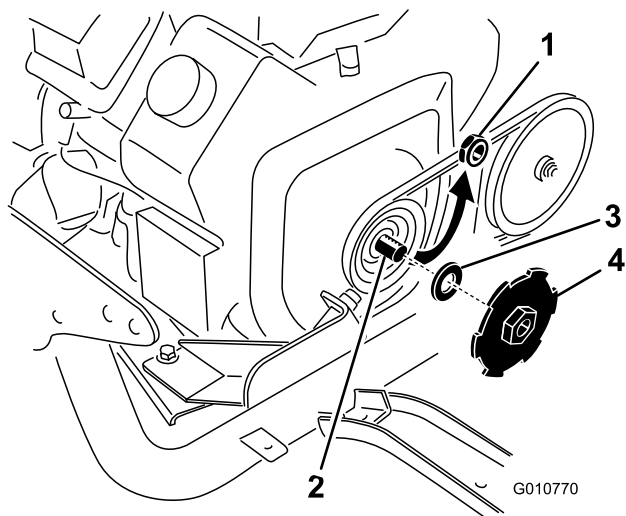

Figure 3
10. Remove the nut from the engine crankshaft (Figure 3). Do not remove the washer or the pulley.
11. Apply blue Loctite to the crankshaft threads (Figure 3).
12. Thread the magnetic pickup wheel onto the crankshaft and tighten to 75 ft-lbs. (Figure 3).